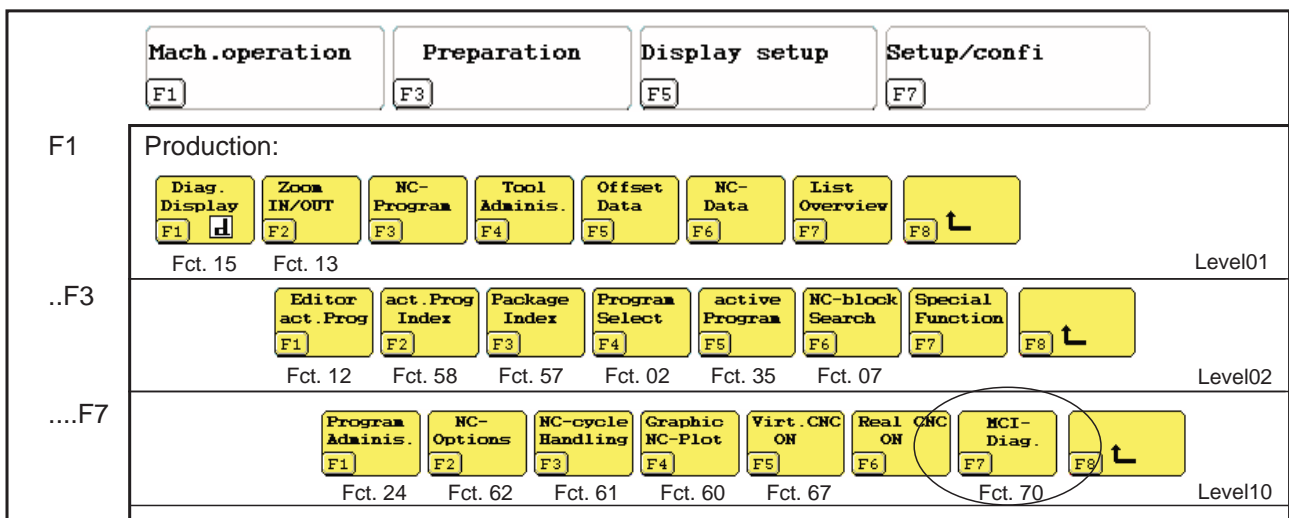

Fig. 2-4: Extract from the default F key assignments
**Starting from the GUI** The MCI can be launched from the GUI. For this to be possible the F-key function Fct.70 which starts the MCI call should be assigned to an unused soft key (see DOK-MTC200-GBO\*GEN\*V17-ANW1-EN-P). In the example the function call for Fct.70 has been assigned to F-key level 10 (see Fig. 2-4):